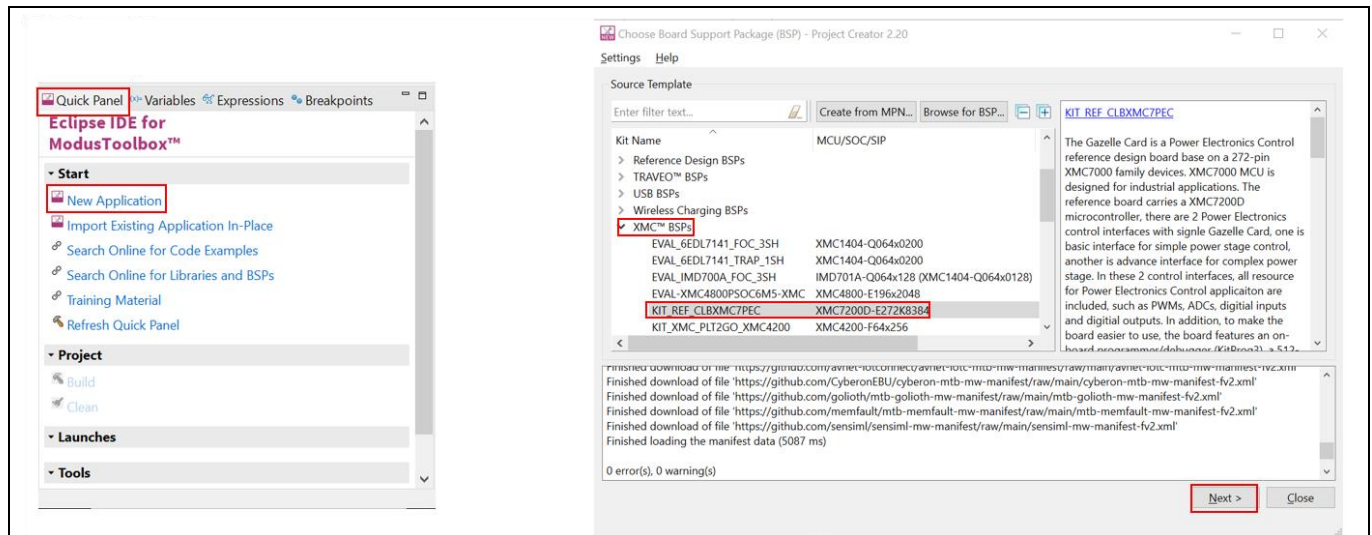

Figure 32 Select application
3. Select **XMC™ BSPs** and then select **KIT_REF_CLBXXMC7PEC** and select **Next >** (Figure 32)